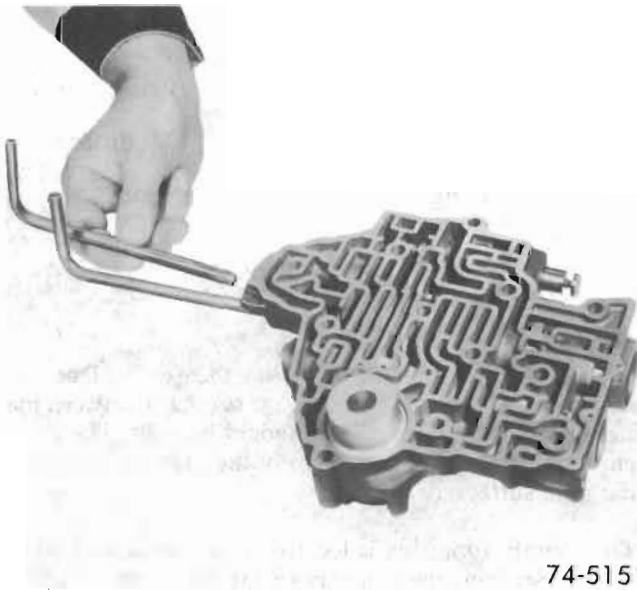

Figure 76-62
6. Remove governor pipes from valve body assembly. See Figure 76-62.